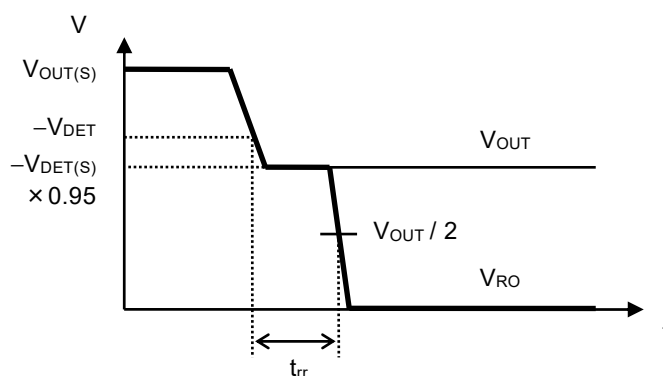

Figure 5 Reset Reaction Time
*4. The time from when V_{OUT} falls below $-V_{\text{DET}}$ to when the RO pin output inverts (Refer to **Figure 5**).